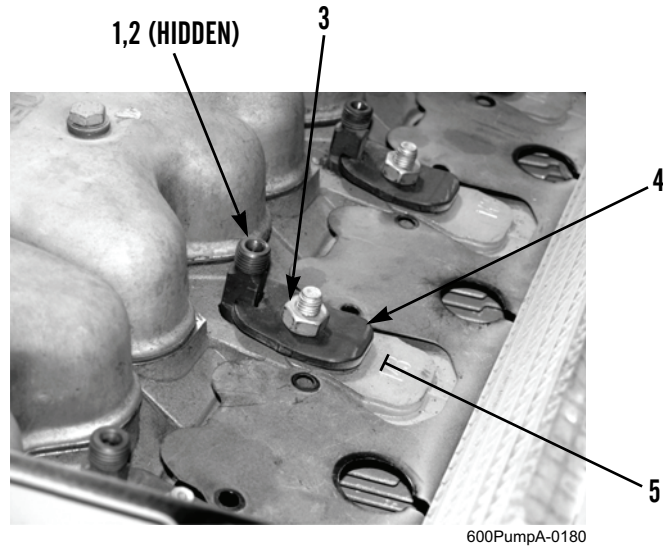

Figure 1. Fuel Injector - Installed.
1. Remove nut (Figure 1, Item 3) and clamp (Figure 1, Item 4) from cylinder head (Figure 1, Item 5).
2. Remove fuel injector (Figure 1, Item 1) from cylinder head (Figure 1, Item 5).
3. Remove seal (Figure 1, Item 2) from fuel injector (Figure 1, Item 1). Discard seal.